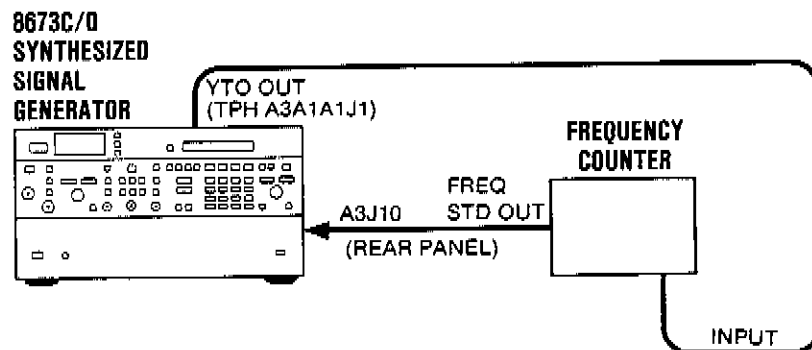

Figure 8-20. HP 8673C/D Baseband Frequency Test Setup
34. Disconnect the semi-rigid coax from the output of coupler A3A1A1J1 (BD1 TPH), and connect the frequency counter in its place (frequency counter should be connected as in Figure 8-20). Refer to BD1, top and bottom view drawings for test point locations.